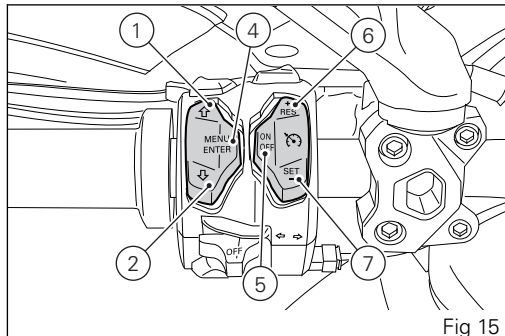

Fig 15
6) CRUISE CONTROL BUTTON - RES (Resume) / + (more) (Fig 15)
7) CRUISE CONTROL BUTTON - SET (Setup) / - (less) (Fig 15)